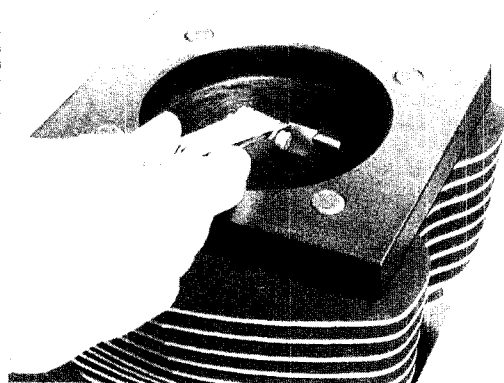

Figure 3-121. Measuring Ring Gap
- See Figure 3-121. Check ring end gap of each ring before placing on the piston. Insert the **new** ring into the cylinder and square it in the bore using the top of the piston. Measure the ring end gap with a feeler gauge. Refer to Table 3-37.